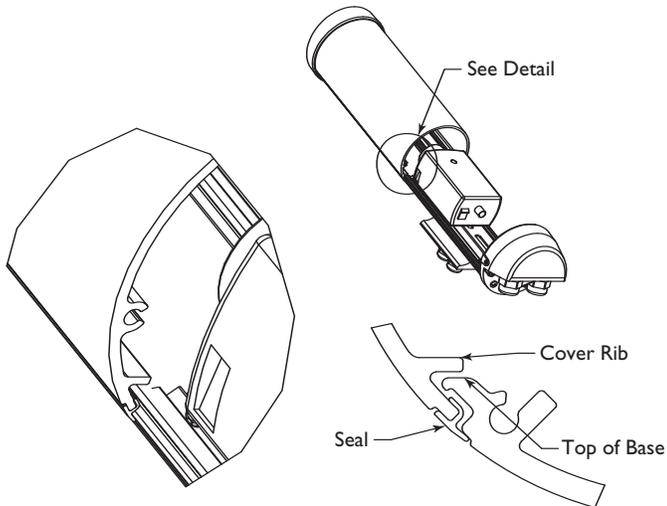

Figure 11: Reinstalling the Cover
2. Reinstall the cover. Align the bottom of the cover ribs with the top of the base. Slide the cover onto the base. Make sure the seal is not folded over or torn. Use silicone grease to lubricate the seals if necessary. See **Figure 11**.